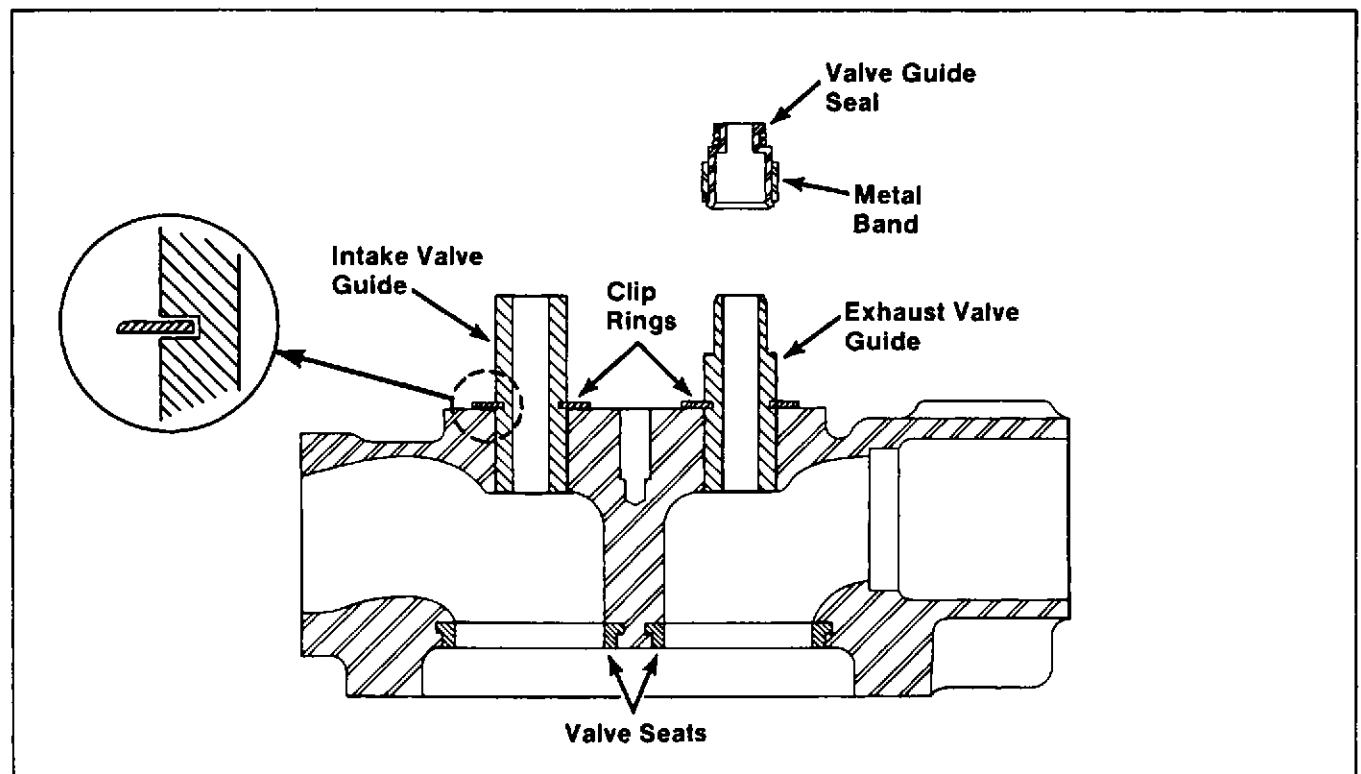

FIGURE 3
2. Install clip ring on guide with the flat edge side toward the chamfered end of guide. (See figure 3.) Place guide in a freezer compartment or on dry ice no less than 30 minutes.
4. Place chamfered end of "cooled" valve guide into cylinder head valve guide bore. Using an arbor press and a 1/2" (12mm) diameter drift punch, press guide into head until clip ring bottoms out in head. (See figure 3.)
1. Place valve guide seal on guide, pressing only on metal band of seal. (See figure 3.)